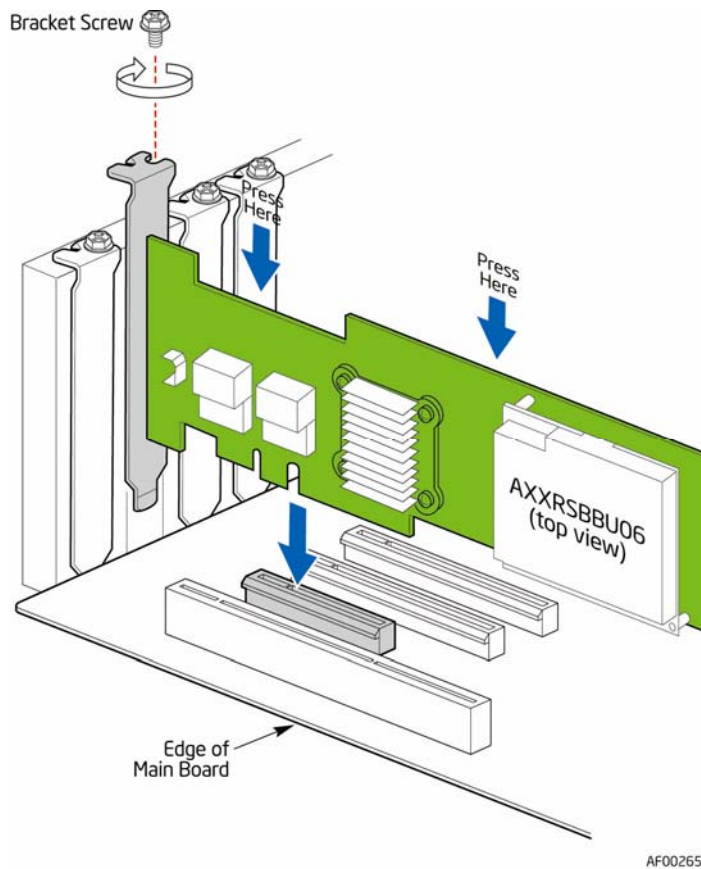

Figure 4. Reinserting an add-in RAID Controller
- Figure 4. Reinserting an add-in RAID Controller 6